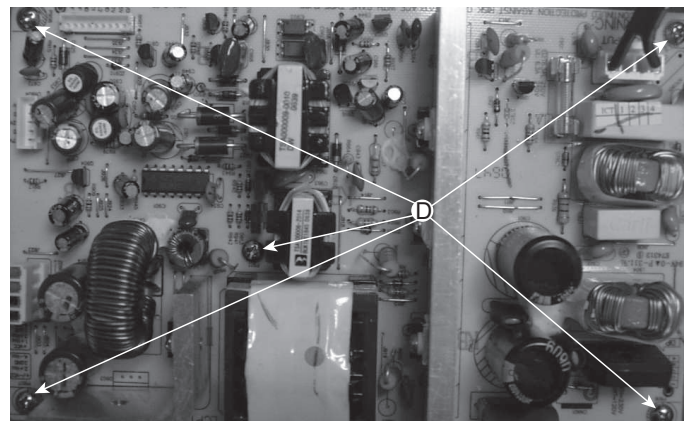

Figure 7
1) Loosen 5 screws "D" at the top of the Power Board as shown in figure 7